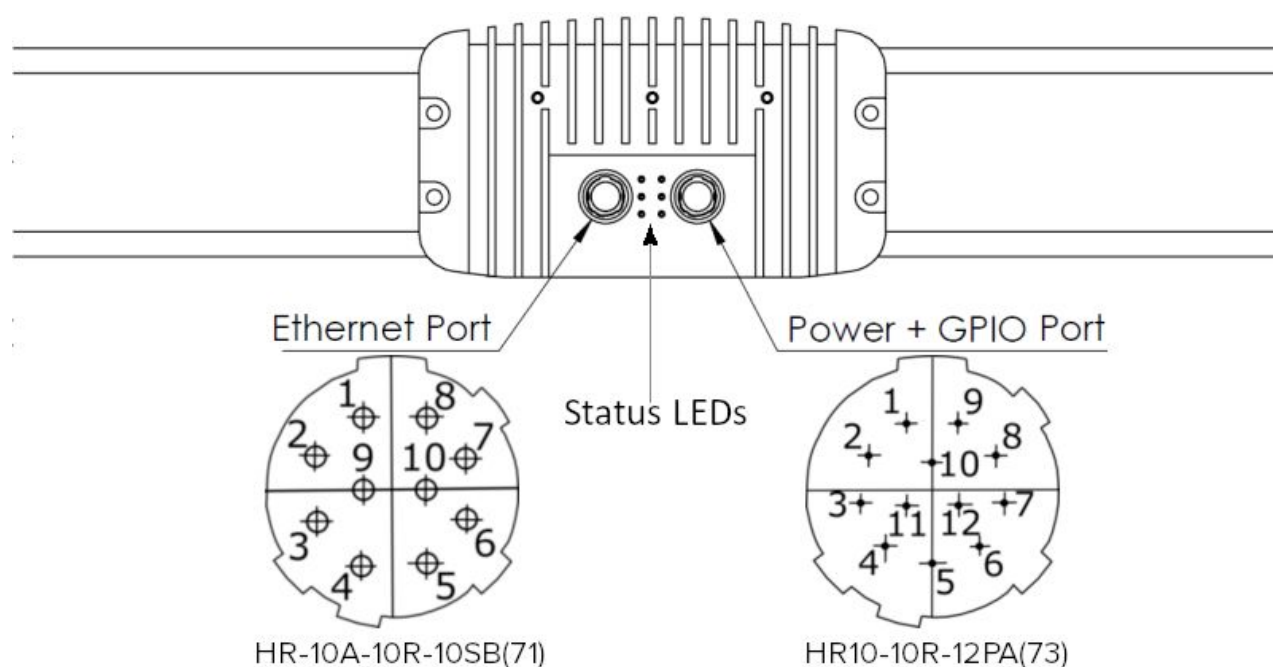

Figure 6: Scanner connectors, ethernet & power port pinout. Refer to sections Data Connector and Power Connector for more details
3. Connect the Scanner to the computer or local network via ethernet cable. See Figure 6 for details.